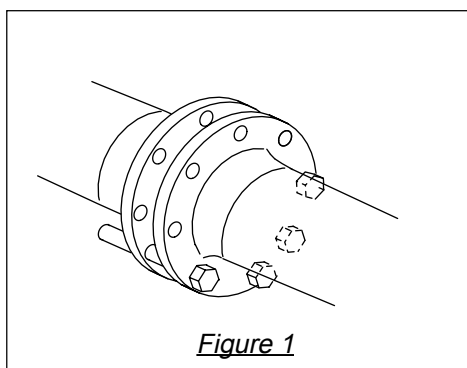

Figure 1
- a. Loosely install the lower flange bolts to form a cradle between the flanges. (See Figure 1.)